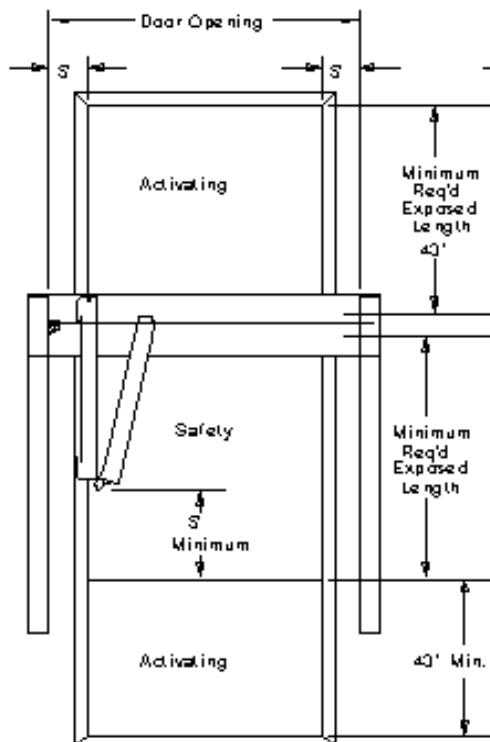

Figure 2
2. It is necessary to have a safety mat covering the entire area over the fold travel. Step through the doorway onto the safety mat and remain motionless for 4 seconds. The door should remain open. Repeat at several locations on the mat. (See Figure 2)